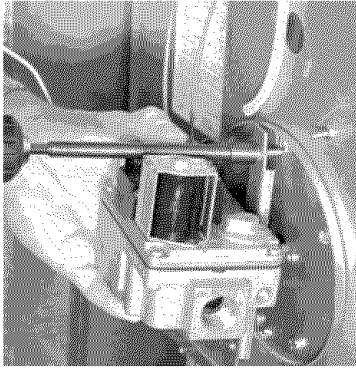

FIGURE 3: Gas valve removal
4. Remove gas valve. See Figure 3.